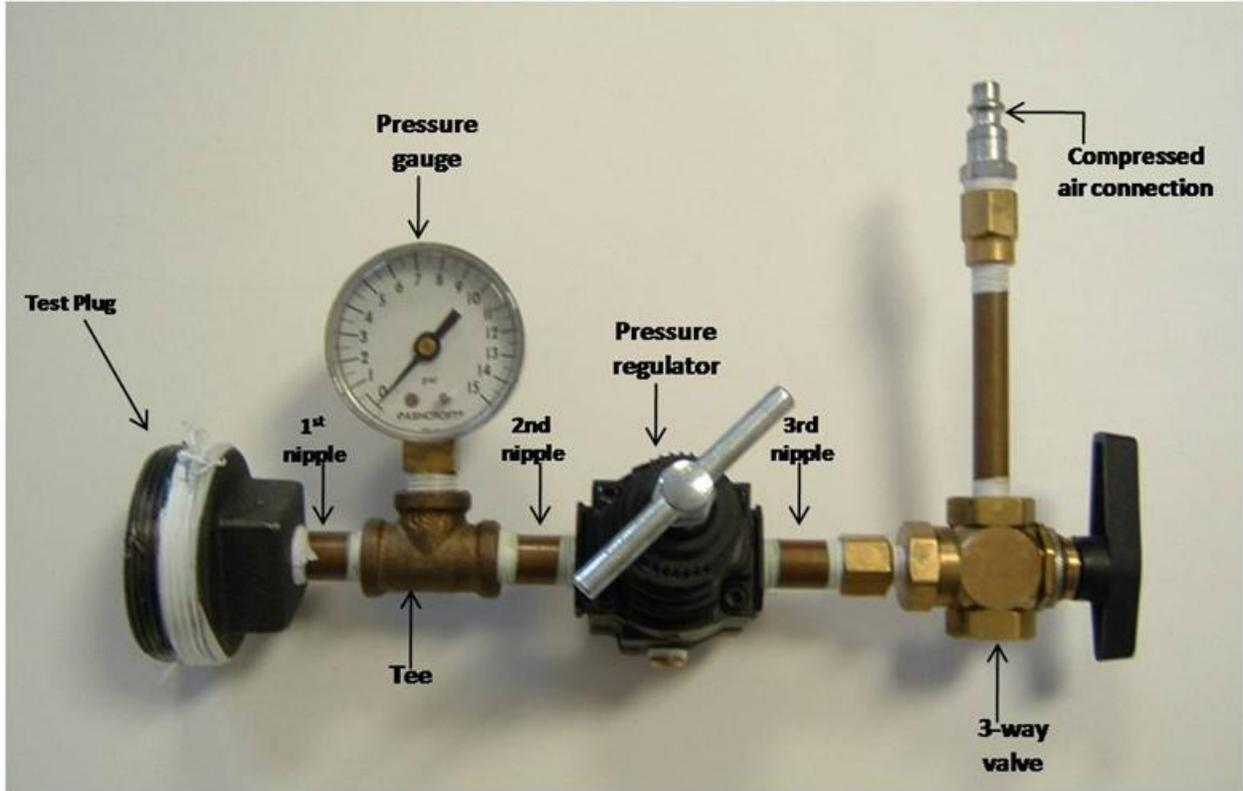

Figure 32: Leak Test Fixture
- **See figure 32: Section 14 / Page 76**